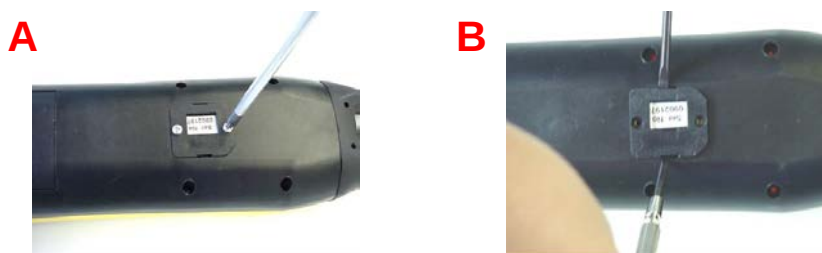

Figure 34. Extracting the EP70 Memory Module
1. Ensure the spare transmitter is **OFF**. Remove the EP70 Memory Module in the transmitter as shown in Figure 34 above.